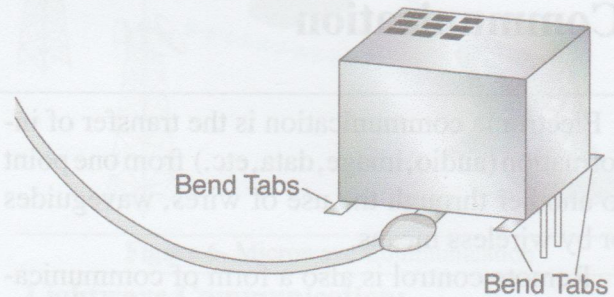

Figure 11- Bending the IR leads
7. Fold all the tabs of the IR module out as shown in Figure 11.